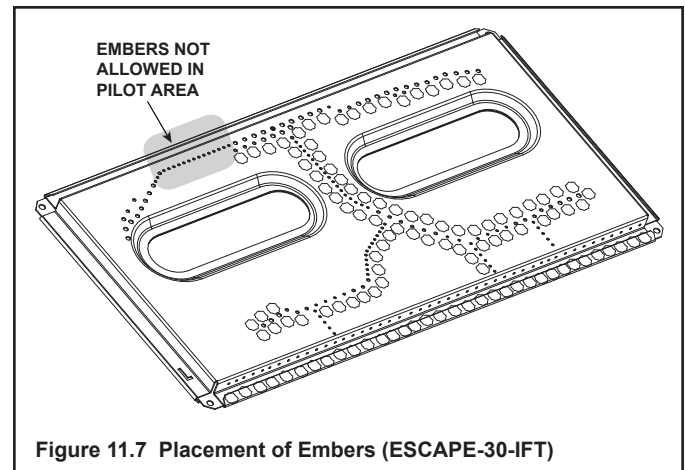
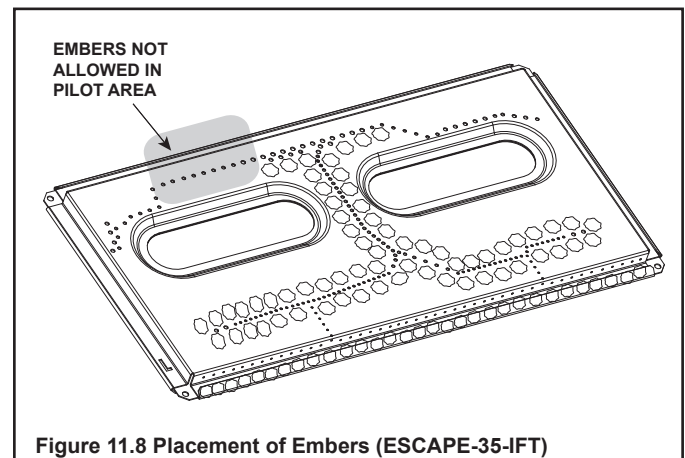

Figure 11.7 Placement of Embers (ESCAPE-30-IFT)
Figure 11.8 Placement of Embers (ESCAPE-35-IFT)
- Place dime-size pieces of Glowing Embers® just in front of the port trail, but not on or in between the ports. See Figure 11.7 (ESCAPE-30-IFT) or Figure 11.8 (ESCAPE-35-IFT). Care should be taken so that the ports are not covered. Failure to follow this procedure will likely cause lighting and sooting problems.